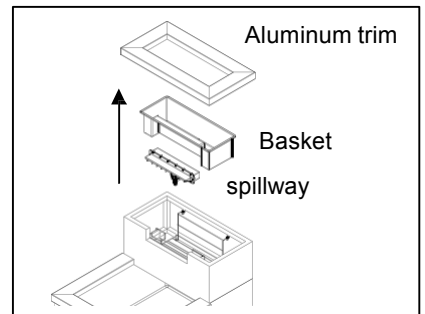

Fig. 2
2. Remove the aluminum trim, the planter basket and the spillway from the upper section. Fig. 2